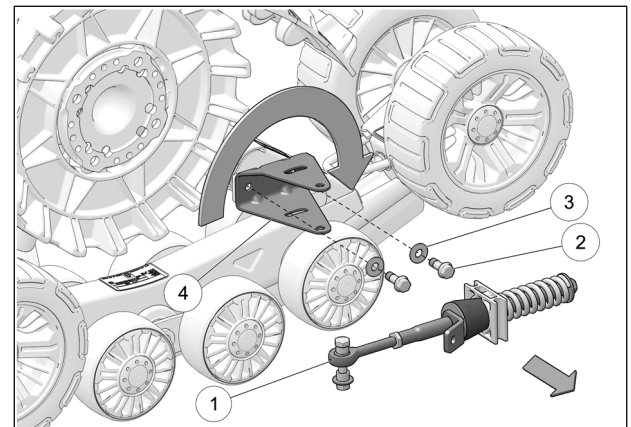
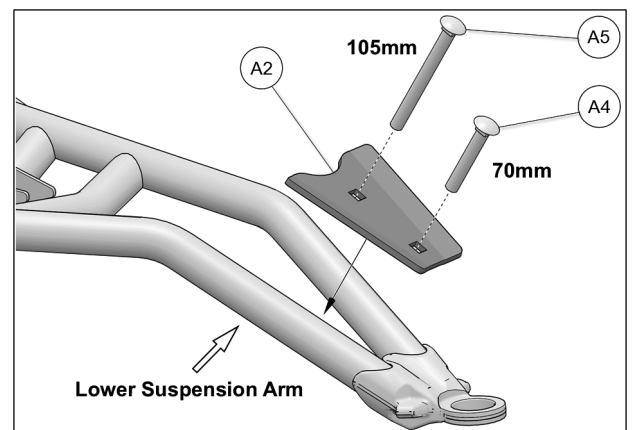

Fig. 13
Fig. 18
5. Remove anti-rotation arm (1). Then remove bolts (2) and washers (3) securing anti-rotation bracket (4) to front Track system. Pivot anti-rotation bracket (4) 180°. See Fig. 13
9. Position the top part of the anchor bracket (A2) over the lower suspension arm as shown in Fig. 13. Insert carriage bolts through square holes provided, M10x70mm bolt (A4) at the front and M10x105mm (A5) bolt at the back. See Fig. 18